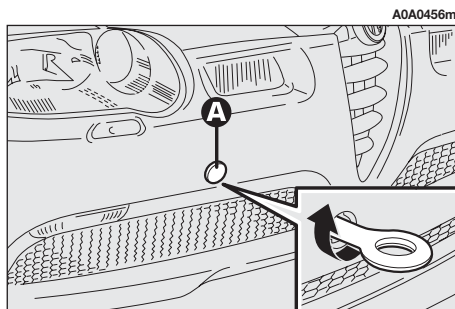

fig. 55
- Remove the cover (A) snap-fitted on the front bumper (fig. 55). To do this use the flat-bladed screwdriver provided, protect the tip with a soft cloth to avoid damaging the car.